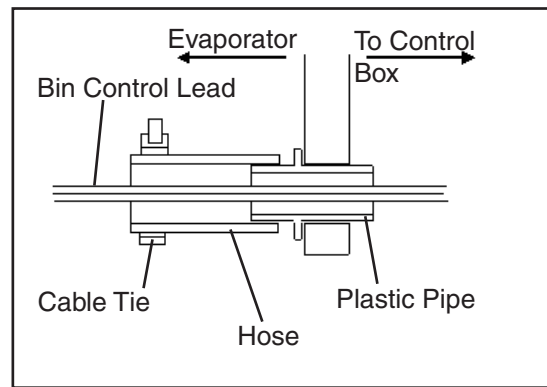

Fig. 9
- 16) Pull the bin control lead so that there is no slack in the ice drop area, then secure the hose that the lead runs through with a cable tie. See Fig. 9.